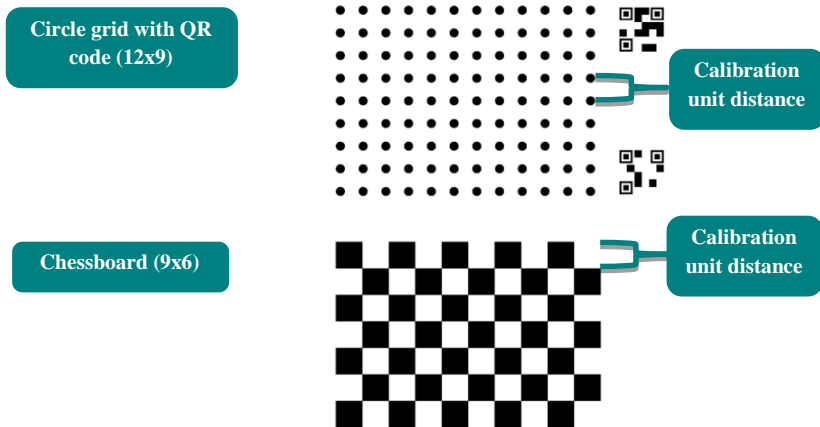

Figure 51: Calibration grids.
This section contains parameters of the calibration grid. Grids with some of the possible combinations of these parameters are displayed in Figure 51. Calibration grids with attached QR codes have the capability of automatic detection of their parameters, so they do not have to be set manually. This feature is activated by pressing the corresponding button in panel of calibration grid parameters (see).
- **Type** – The type of detected markers. Can be set to one of the following options, which are also previewed in Figure 51: